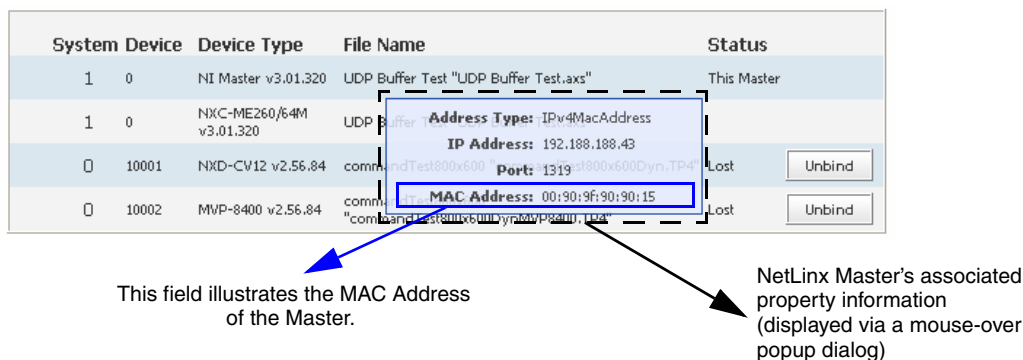
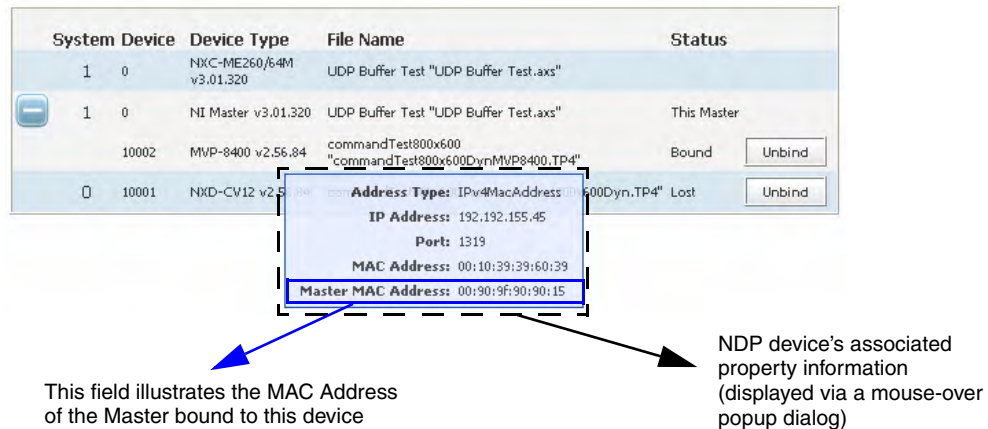

FIG. 68 Manage NetLinx Devices page - showing a sample mouse-over popup dialog
FIG. 69 Manage NetLinx Devices page - showing a sample mouse-over popup dialog
1. Use your mouse to hover the cursor over a particular device within the listing and display a mouse-over popup dialog (FIG. 68).
- If the device is one that is bound to a Master, the popup also displays an additional Master MAC Address field, which should match the MAC Address information for the bound target Master (FIG. 69). **Notice that the Master MAC Address in FIG. 69 should match the MAC Address of the Master in FIG. 68.**